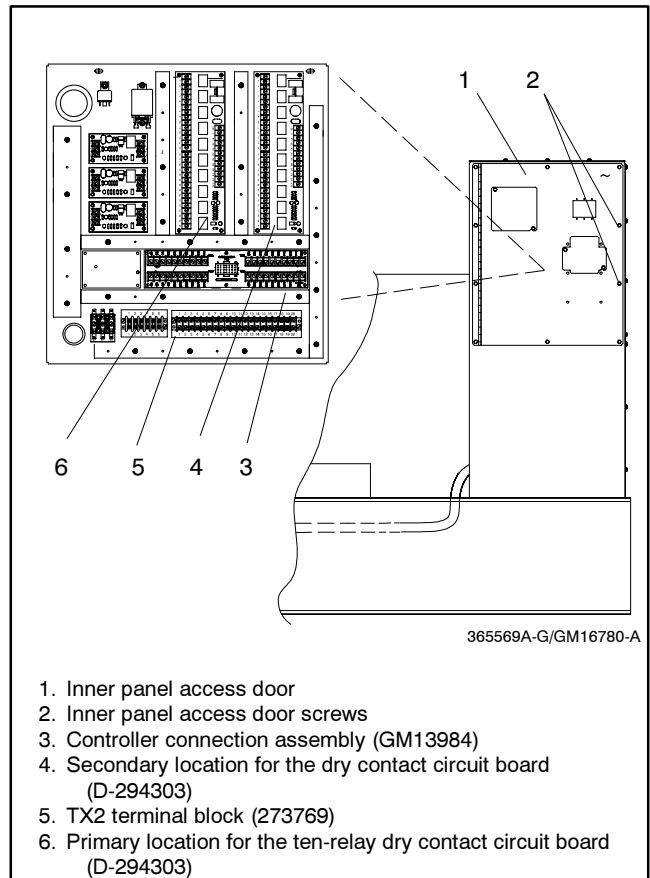

Figure 4 Terminal Block Bracket Mounting in Junction Box (450–2000 kW)
- 2.3.3 Attach the controller connection assembly (GM13984) to the junction box bracket studs using six spacers (X-712-9) and nuts (X-70-12). Place the spacers between the controller connection assembly and the mounting bracket. See Figure 4 for the mounting location.
- 4.3 Attach the TX2 terminal block (273769) and strip marker (279271) to the junction box bracket using two screws (X-49-6) and whiz nuts (X-6210-3). See Figure 4 for the mounting location.
5.3.1 Mount the ten-relay dry contact circuit board (D-294303) in the primary location on the junction box bracket studs using six spacers (X-712-9) and nuts (X-70-12). Place the spacers between the ten-relay dry contact circuit board and the mounting bracket. See Figure 4 for the mounting location.
(X-70-12). Place the spacers between the ten-relay dry contact circuit board and the mounting bracket. See Figure 4 for the mounting location.